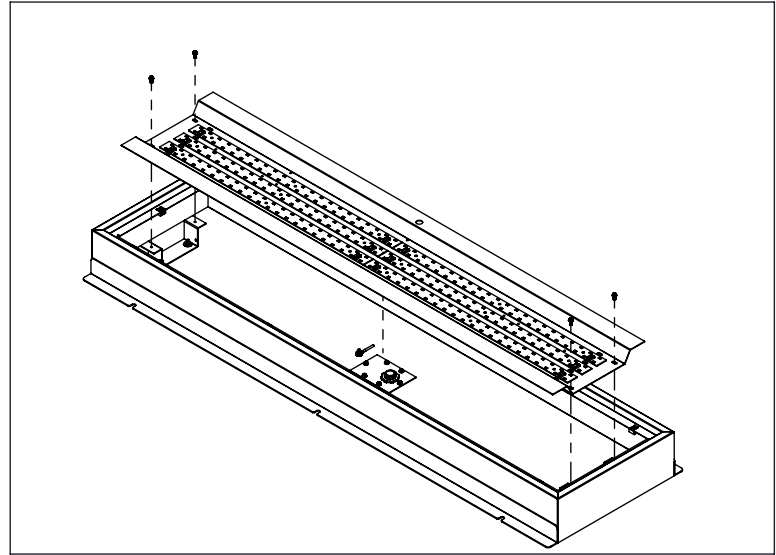

Figure 2
2. Remove LED gear tray fasteners, then remove LED gear tray (Fig. 2).